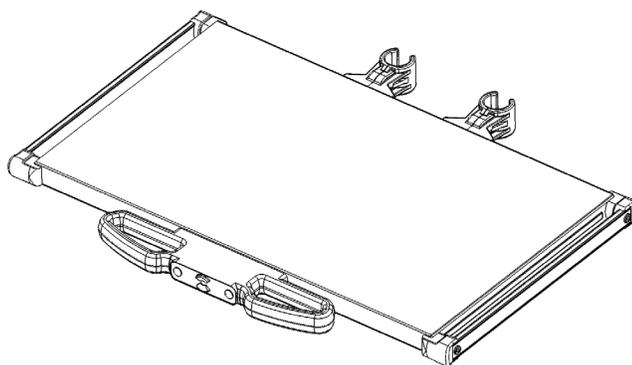

Figure 8.2 - Shelf with handle attached
1. Remove the shelf from the packaging. The shelf should include all the parts shown in Figure 8.2 unless it comes without a handle.